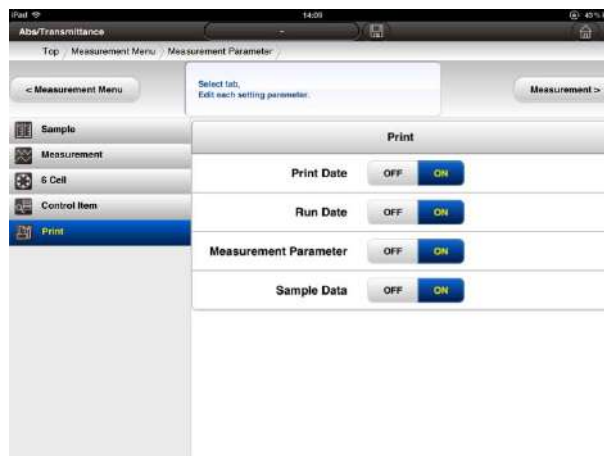

Fig. 4-35 Printing Conditions Window
- (1) Press  [print tab] to set printing conditions.
- (2) The printing conditions window (Fig. 4-35) will then be shown.